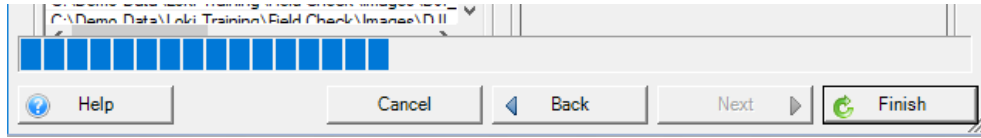

Figure 11 - Import Progress
- Click finish to import the data from the aircraft and the Loki controller. A blue bar will show the progress (Figure 11).